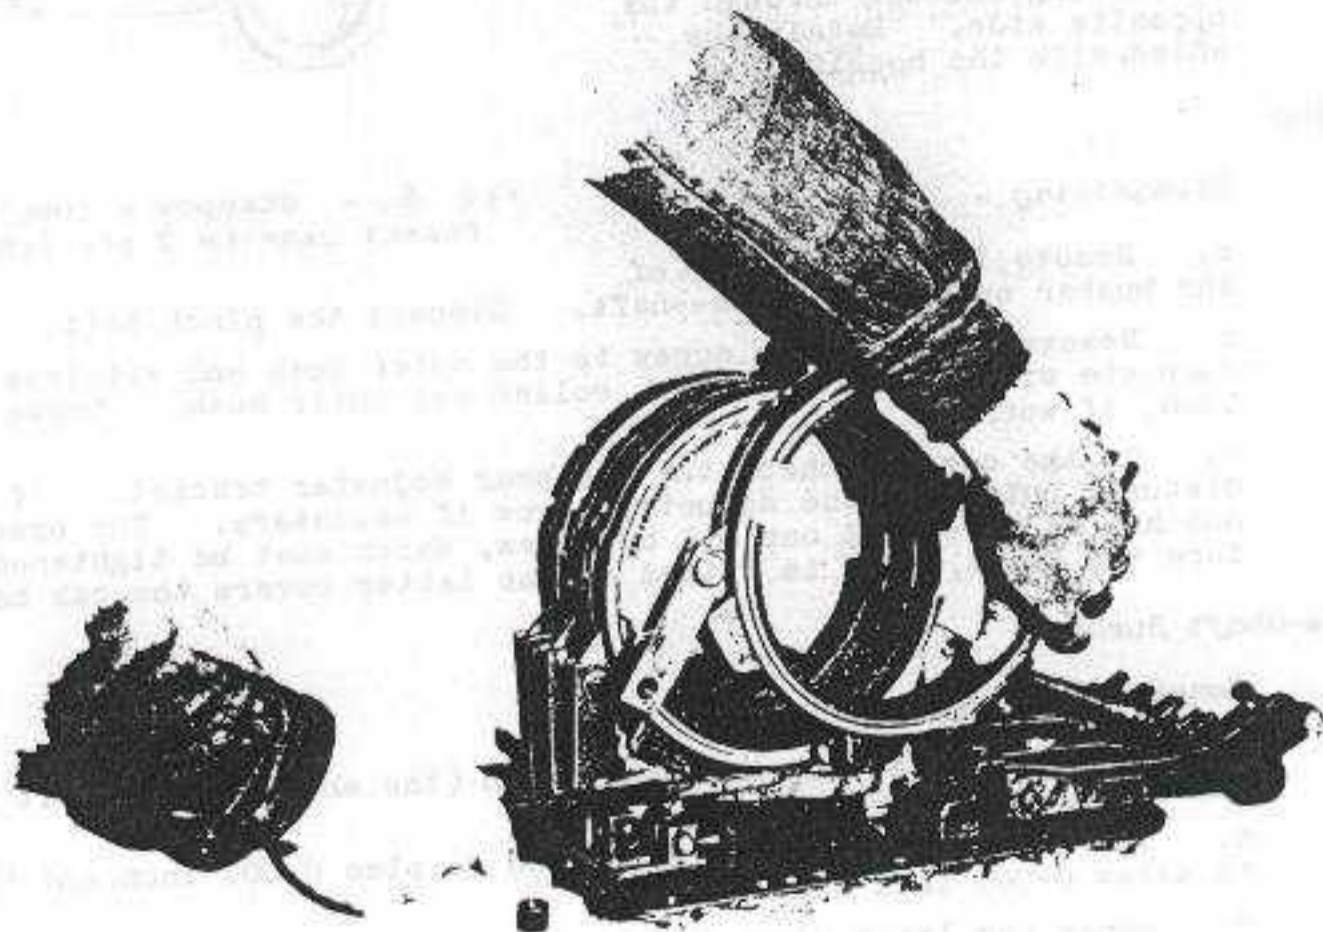

FIG 7 - GEARBOX - METHOD OF REPLACING CENTRALIZING SPRINGS IN THE BRAKE BAND LUGS
11. a. Select the 1st gear brake band and place one centralizer spring in the 1st gear centralizer at the fulcrum bracket side. Compress the spring with a suitable pair of tongs and slide the ears of the band over the centralizer (fig 7). Place a spring in the opposite centralizer and pull the brake band over until the second pair of ears is over the centralizer. Fit the link and pin to the brake band and push the link rod through far enough to secure the 1st